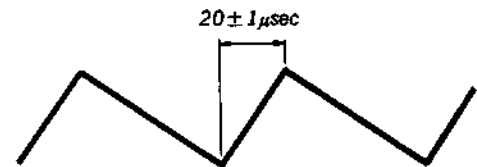

Fig. 5-26. JOG PLL adjustment
- Adjust to $20 \pm 1\mu\text{sec}$ with RV006 (See Fig. 5-26)